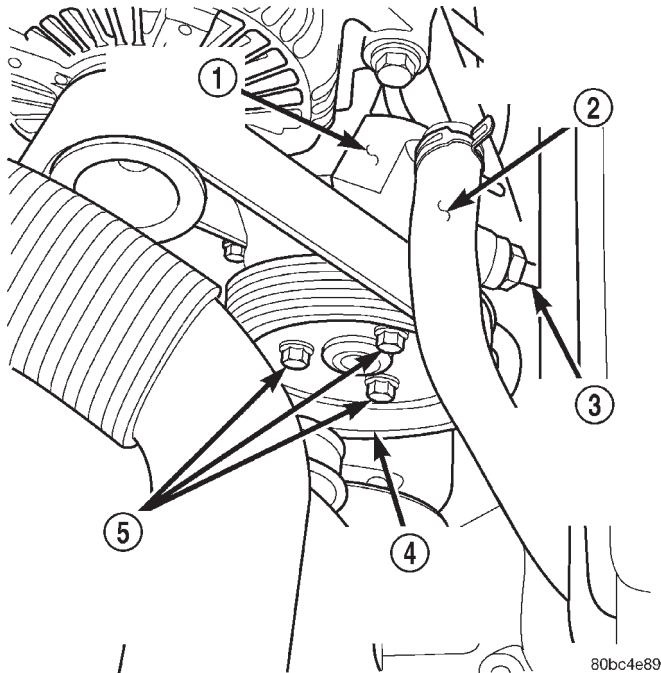

Fig. 30 Power Steering Fluid Lines At Pump
(36) Install the power steering fluid pressure line on the pump (Fig. 30). Be certain the sealing O-ring is well lubricated and free of tears.
(37) Install the power steering fluid supply hose on the pump (Fig. 30).